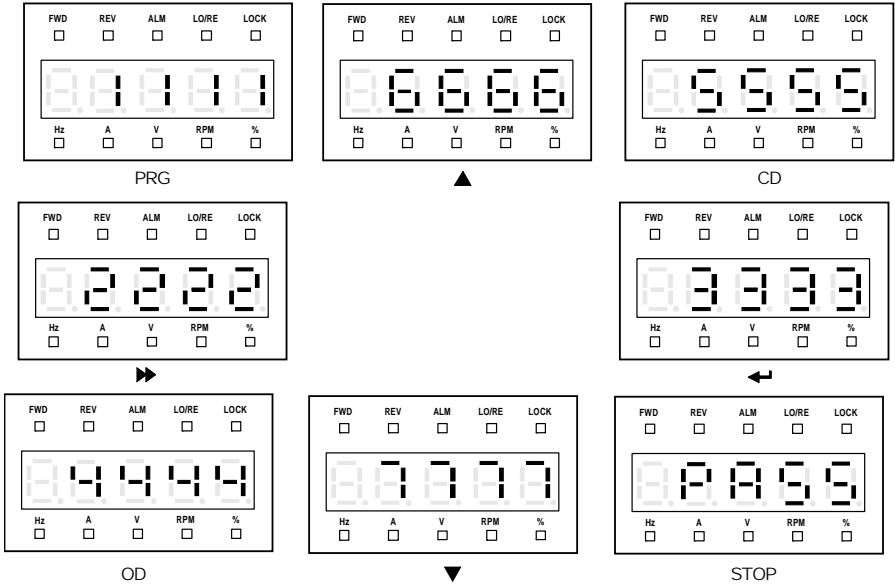

Figure 3-19 Correct correspondence of the keys and the displays of YS-P02
2. Press any key of the panel and observe the LED and the state indicators to detect the corresponding key whether valid. And the correct correspondence is as shown in Figure 3-19.